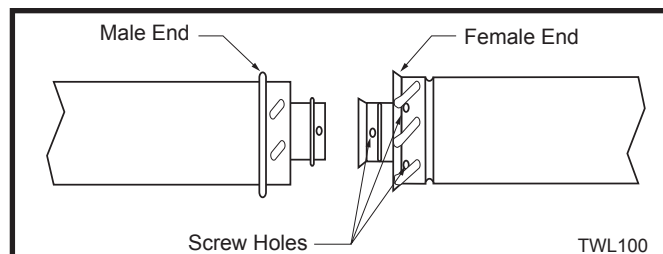

Fig. 11 Twist-lock pipe joints.
To join the twist lock pipes together, simply align the beads of the male end with the grooves of the female end, then while bringing the pipe together, twist the pipe until the flange on the female end contacts the external flange on the male end. It is recommended that you secure the joints with three (3) sheet metal screws, however this is not mandatory with twist lock pipe. (Fig. 11)